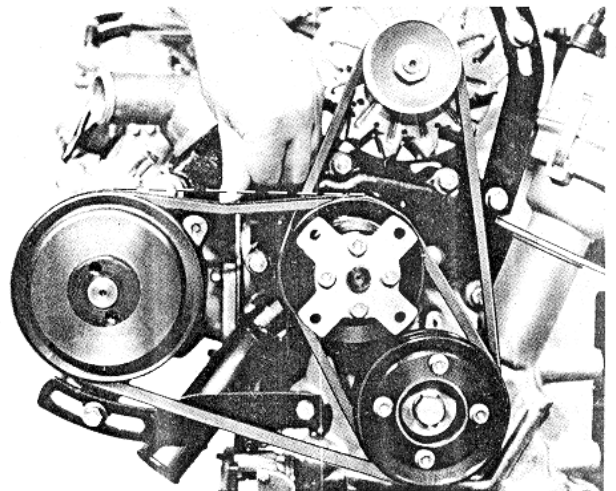

Fig. 1-98 Adjusting air pump belt
5. To adjust the "V" belt tension, push the "V" belt with about 10 kg (22 lb) as shown in Fig. 1-98. The belt deflection should be **10 mm (0.39 in)**. On the new belt, it should be **8 mm (0.31 in)**. After adjusting, tighten the bolts and nuts.